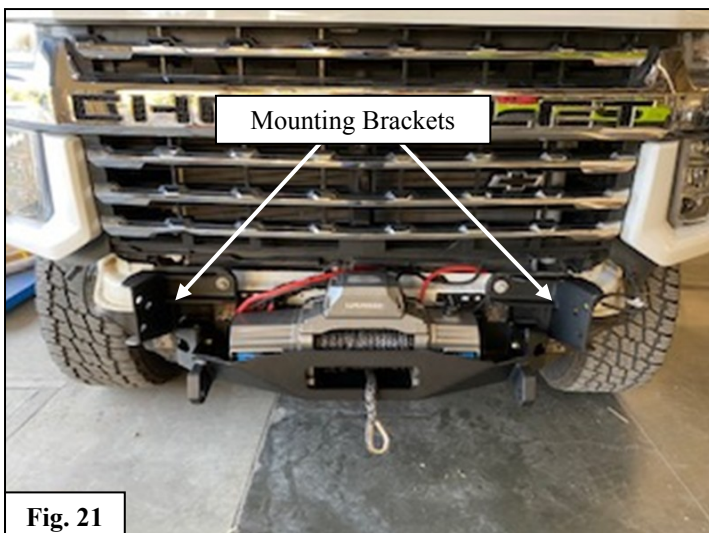

Fig. 21
20. Using the OEM hardware, install the Mounting Brackets (3-4) onto the vehicle. See **Figure 21** for reference.